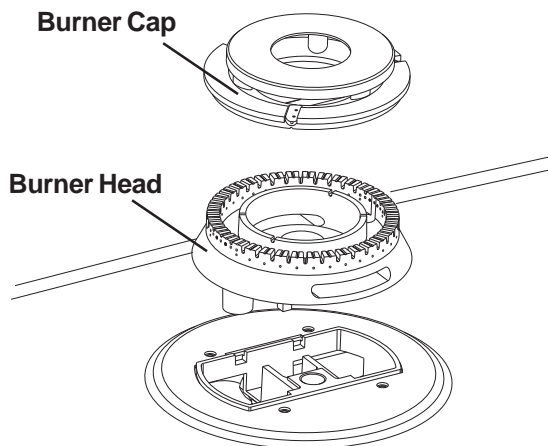

Figure 11
- Triple Burner (if equipped):** Remove all tapes from burner cap. Remove the burner cap and head. Remove and discard the packaging material. Replace head and cap on the triple burner. **Be careful not to damage the electrode while placing the head over the orifice.** Make sure electrode fits correctly into slot in burner head (see Figure 11).